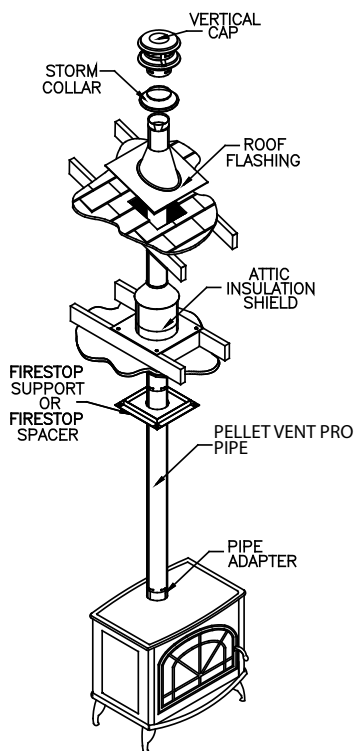

Figure 1
2. If the vent exit is on top of the stove (**Figure 1**):